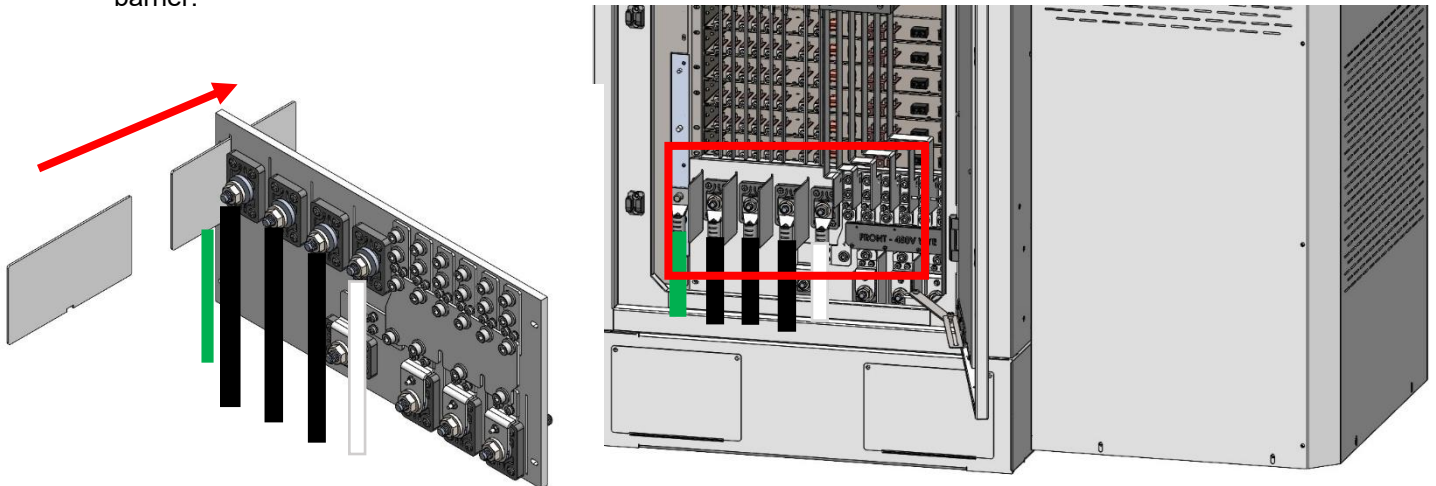

Figure 47 - AC Input Wiring for different AC Input Power Configurations
15. After all input power wires have been secured to AC Main Switch studs, insert and seat the four plastic phase barriers provided (Figure 47) in between the AC Input Power wiring.